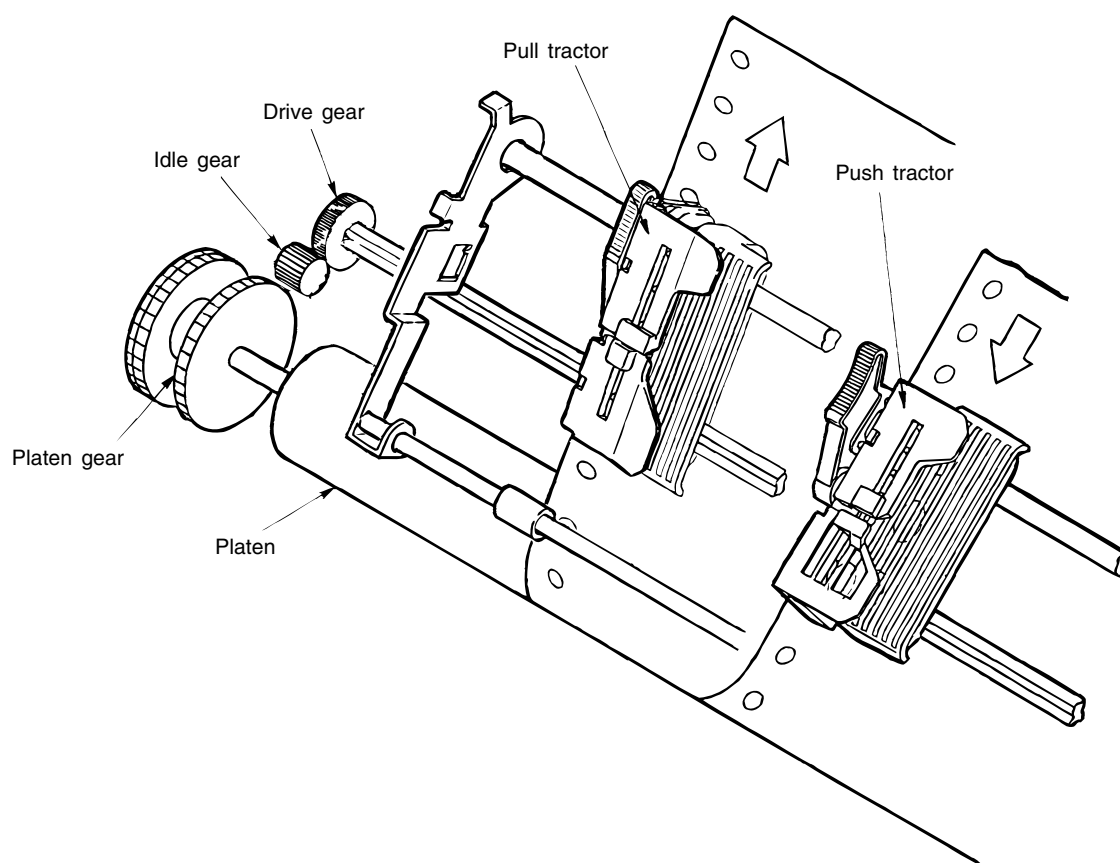

Figure 2-11
(4) Push and pull tractor mechanism (Option) (See Figure 2-11).